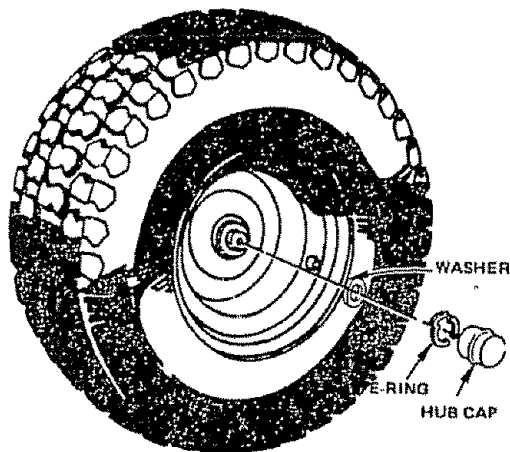

FIGURE 43
- Removing rear wheel for tire repair (Fig. 43):